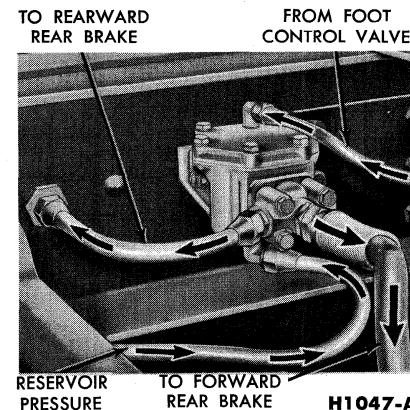

FIG. 20—Relay Valve
The quick release valve is mounted as shown in Fig. 1. The relay valve is used on tandem models and is mounted as shown in Fig. 20. The following procedure applies to both valves with one exception. Before removing the relay valve, the system must be exhausted of air pressure. This is unnecessary when removing the quick release valve.
3. Connect the air lines as shown in Fig 20.